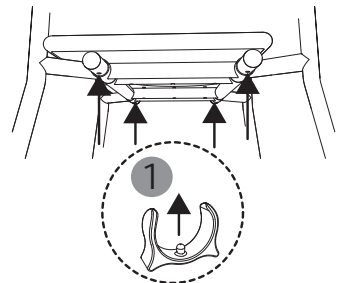

Fig. 14
5. Twist the plug-in tubes so that the openings of the holes are pointing upwards and downwards. Insert the four mounting clips from below (1, Fig. 14).